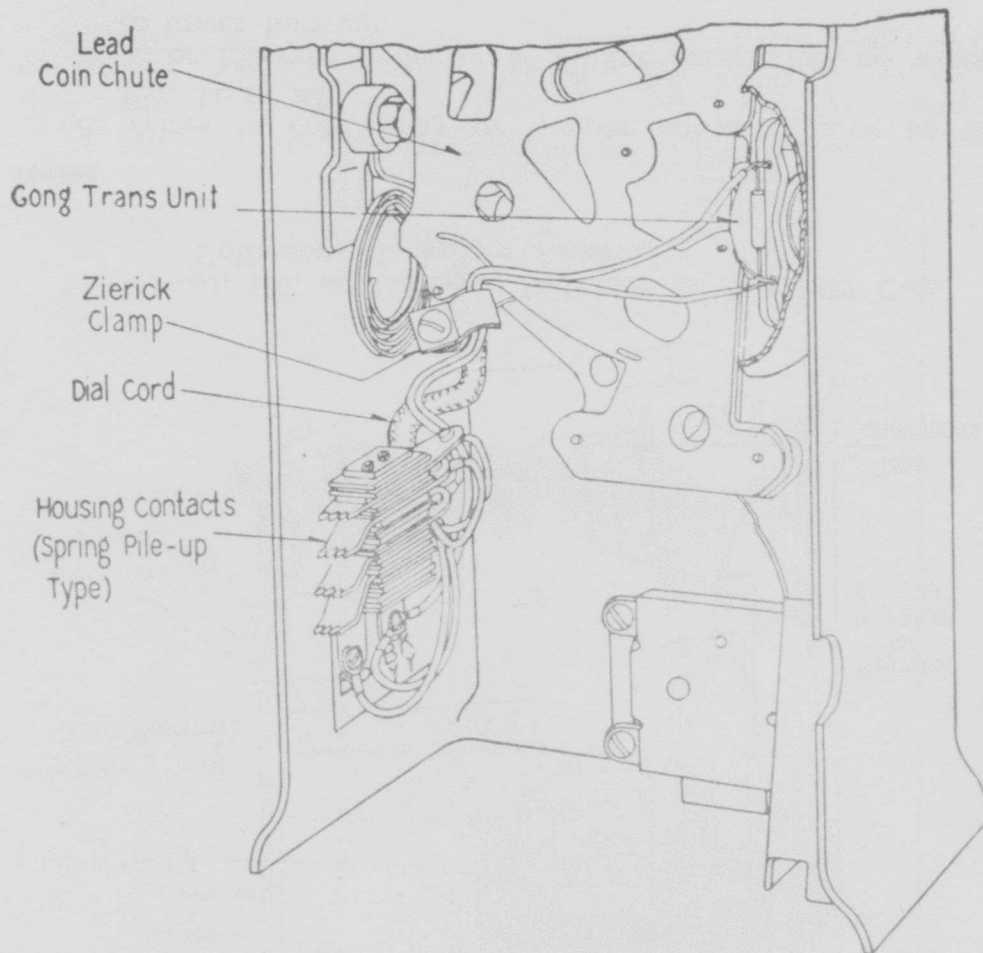
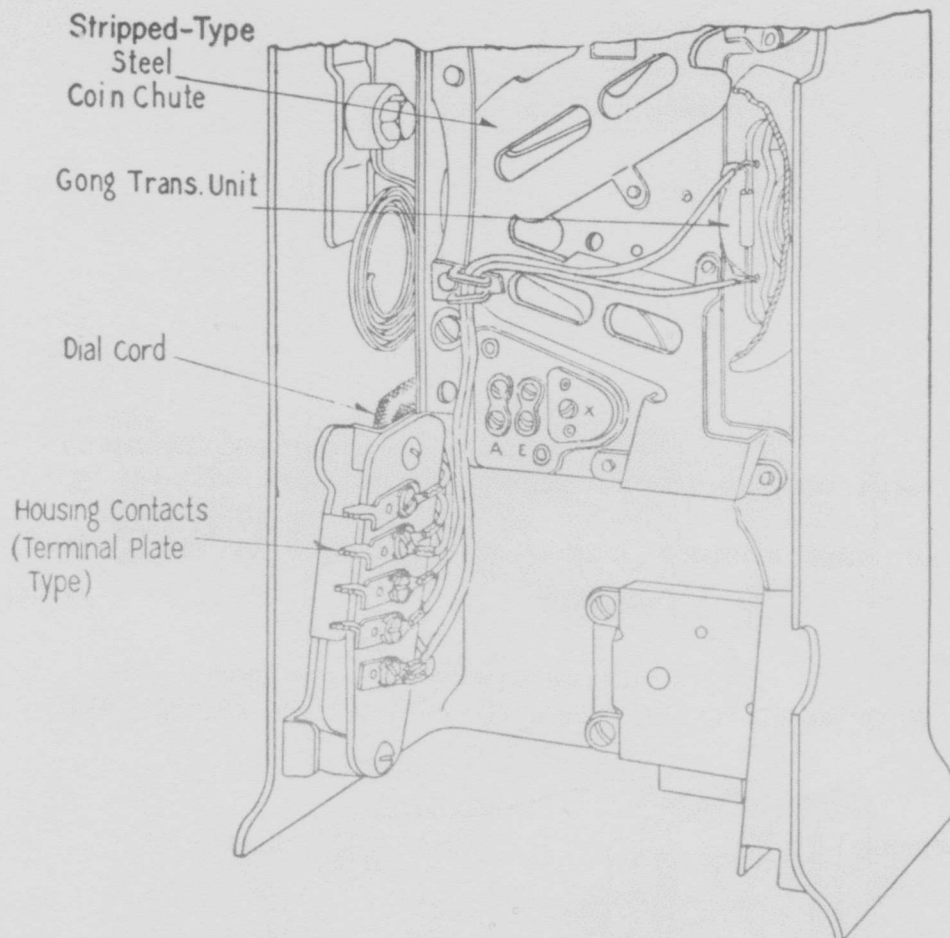

Fig. 12—51, 52, 151, 152, or 153-type, D-178936 or D-178937
Fig. 16—164, 167, or 169-type, D-178938 or D-178939 Coin Collector—Upper Housing
2.16 On 51, 52, 151, 152, 153, 164, 167, or 169-type, D-178936, D-178937, D-178938, or D-178939 coin collectors, signal transmitter lead-wires shall be arranged and anchored as shown in Fig. 12 for lead chutes and Fig. 16 for steel (stripped) chutes.